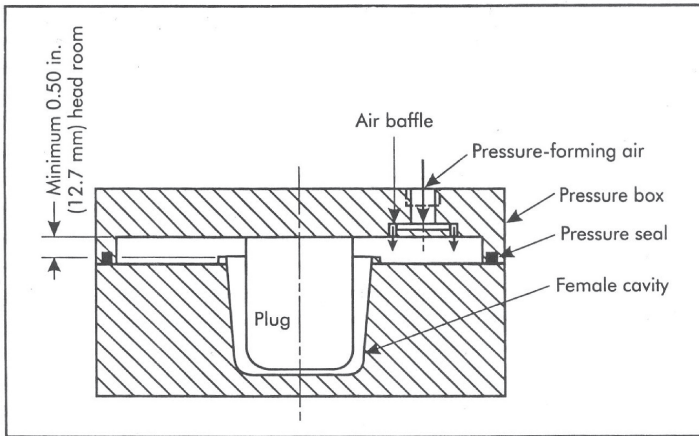

Figure 3. Female cavity plug and the pressure box.
1. Choice of male or female cavities is often based on what is the best thermoforming option for a high quality part. However, in many cases, either type of cavity would suit the process and a male cavity is often half the cost of a female cavity; male cavities do not require a plug for proper function and it is less expensive to machine the exterior of a cavity than its interior (Fig.3).